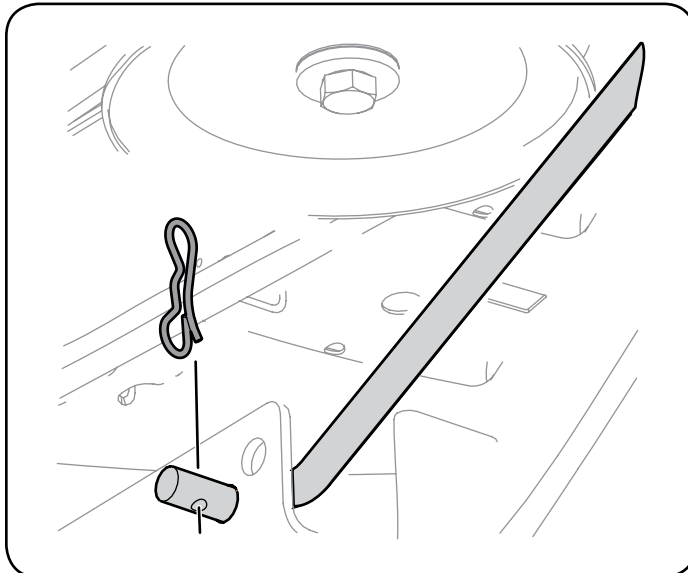

Figure 28
7. Pull the bow-tie pin out of the front deck lift rod securing it to the deck. See Figure 28. Slide the deck lift rod out of the front hanger bracket.